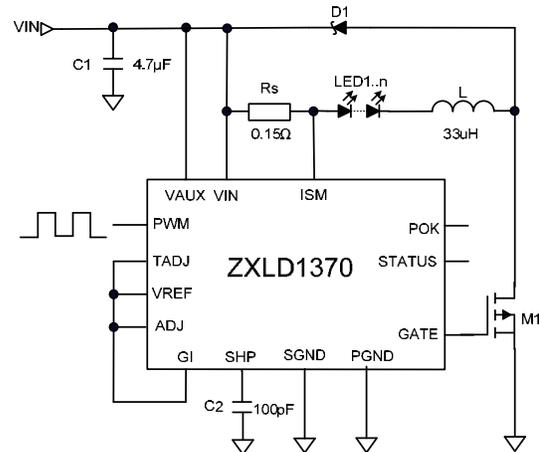

Figure 13: Buck configuration
**a) Buck mode – the most simple buck circuit is shown in Figure 13**
A basic ZXLD1370 application circuit is shown in Figure 13 and 15.